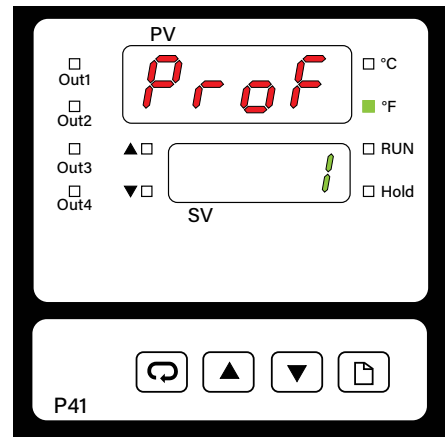

Figure 21
1. From the *StArT* mode, Press the  PAGE key until you see "ProF" (*PrOf*) in the upper display. (See Figure 21).
4. Press the ▲UP or ▼DOWN keys until the segment number you want to modify is displayed in the lower display (See Figure 21).